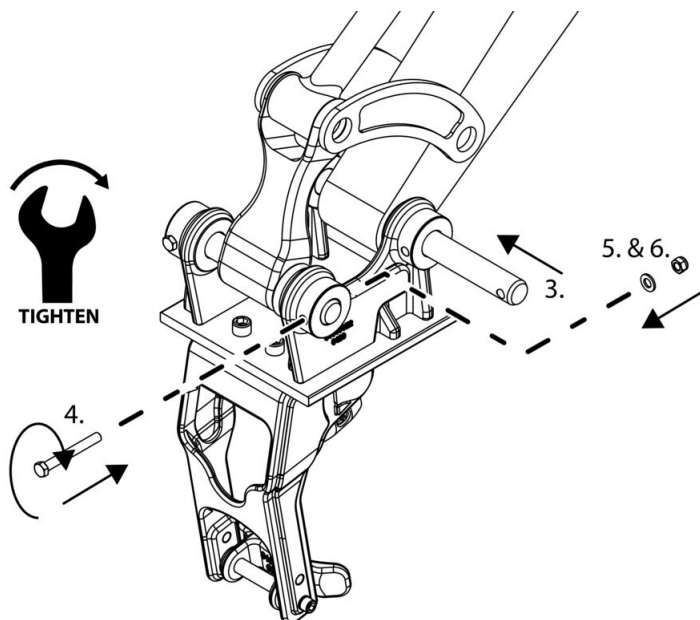

Fig. 16
Insert item(s) 3. and affix with items 4., 5. & 6. (4 places) Tighten to 20-25 Nm (14-18 ft-lb), 4 places. **Fig.16** Grease as per parent machinery manufacturers instruction.